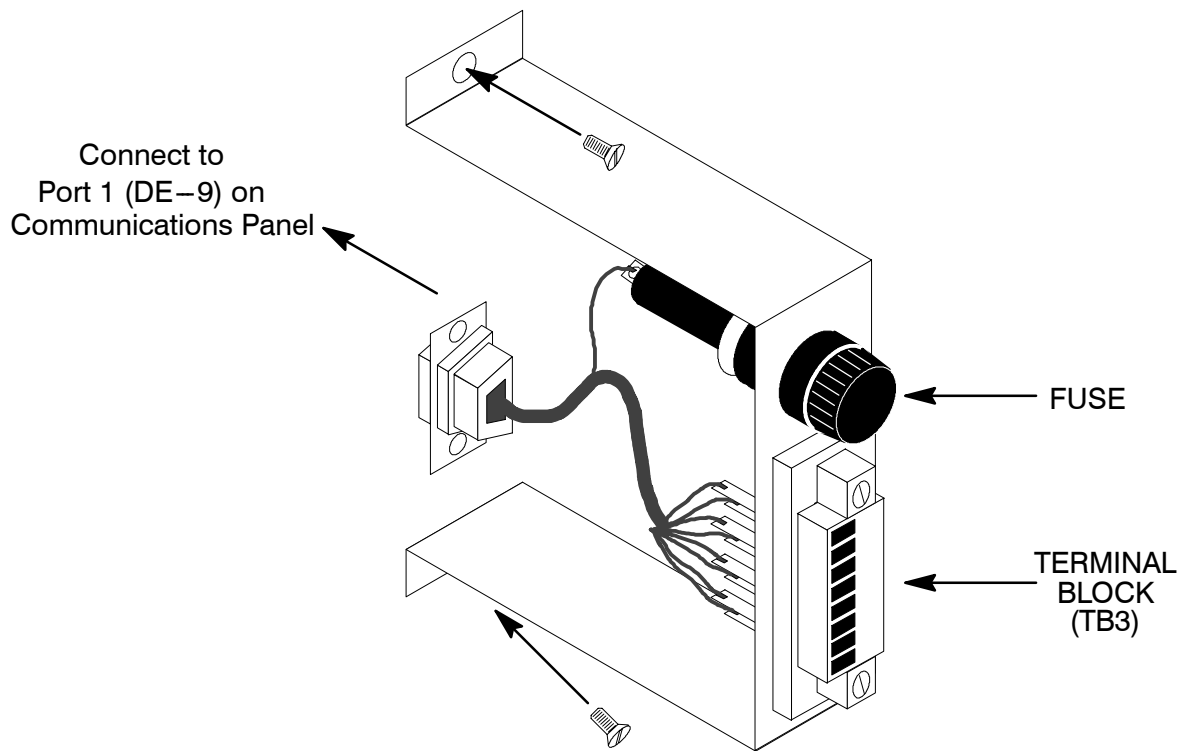
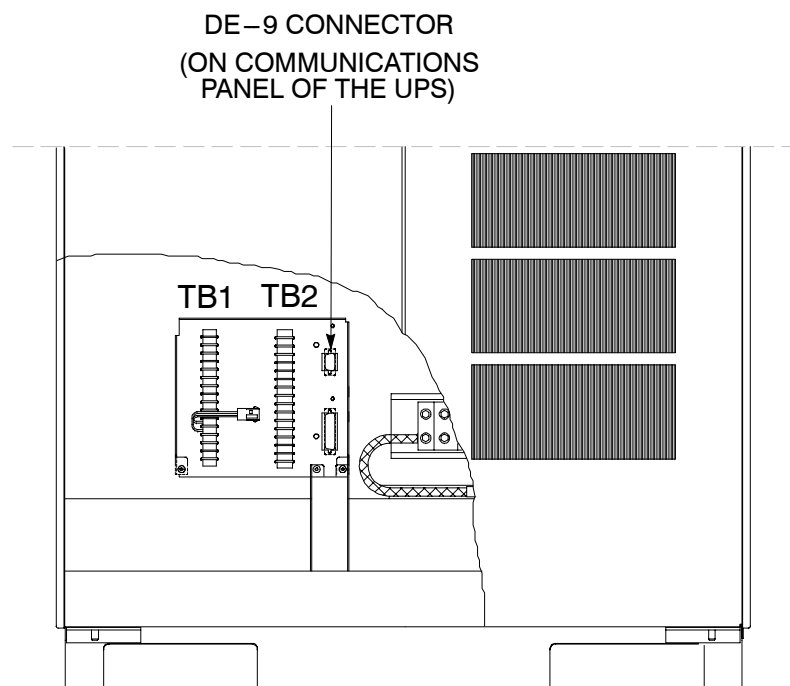

Figure 24. Terminal Block Bracket
Figure 25. Wiring an RIM to the UPS
3. In the spare parts kit locate the RMP Adapter Cable assembly (see Figure 24). Mate the DE-9 connector on the back of the terminal block into the DE-9 connector on the Communications Panel of the UPS (see Figure 25). Use two screws from the spare parts kit to secure the terminal block plate to the Communications Panel.